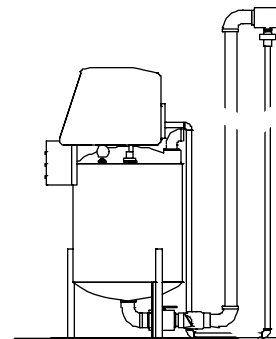

fig.9
- Pump frame has 3 bolt down flanges. Use these to secure the unit to the surface with lag bolts or similar fasteners. fig 9